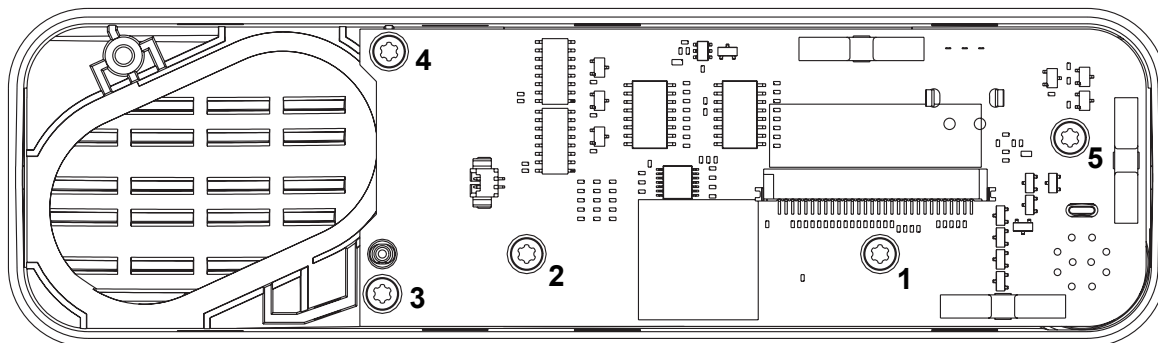

Figure 5-39 Screw Sequence
- d. Using a T10 TORX™ driver, tighten the five screws to 0.882 N-m (7.8 lbs-in) following the sequence as shown in Figure 5-39.